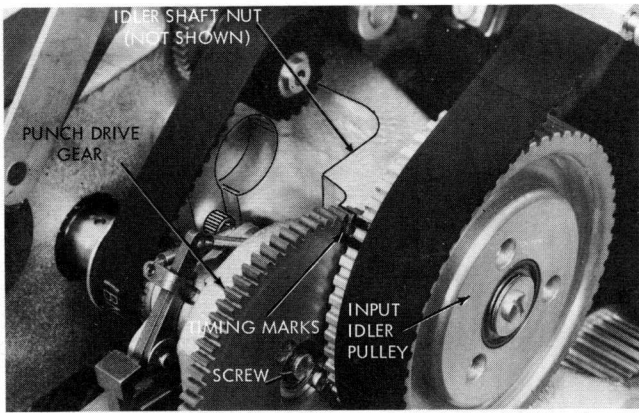

Figure 5-4. First Stepped Feed Roll Timing Belt Installation
(10) Punch Unit Drive Belt
(11) First Stepped Feed Roll Drive Belt
- After marking punch input idler pulley relationship to punch drive gear (Figure 5-4) remove hex nut that holds input idler pulley shaft onto machine casting. Remove unit. NOTE: IF this relationship is not maintained there is a possibility of getting the punch clutch back in step ±2° out of time.